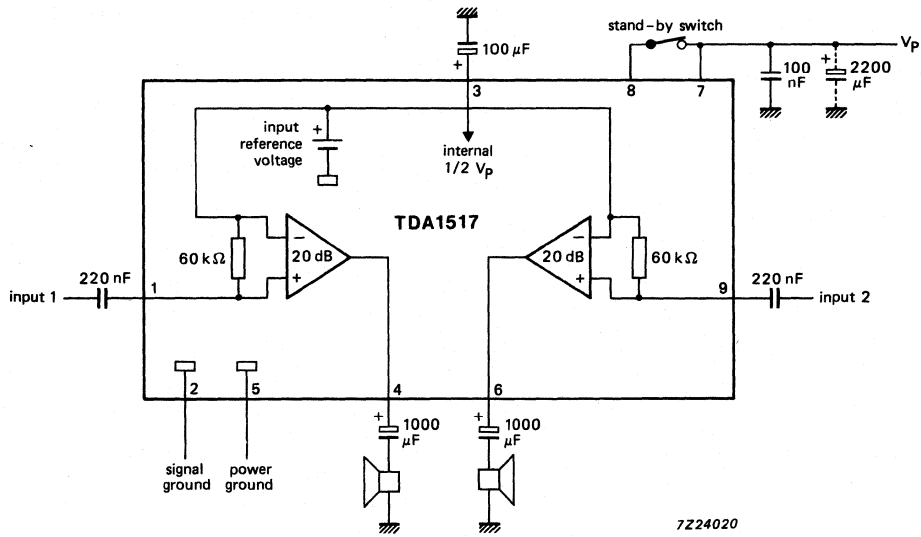

Fig. 4 Application circuit diagram.
1. All characteristics are measured using the circuit shown in Fig. 4.